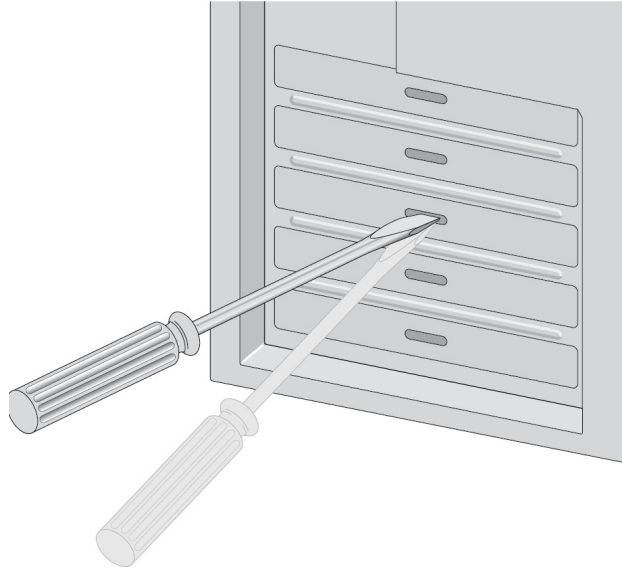

Figure 12. Removing the Faceplate From PCIe Slot
4. Remove the faceplate that is directly in line with the PCIe slot you selected. See Figure 12.